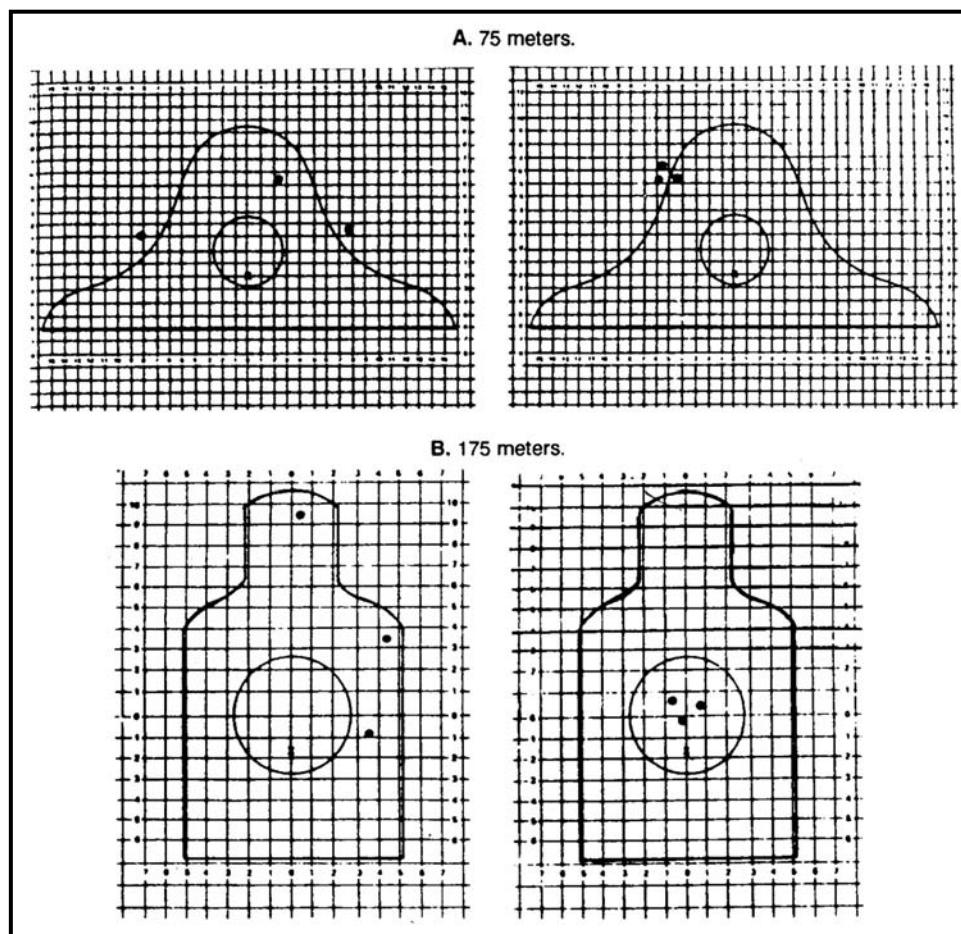

Figure 5-23. Comparison of firing performance.
d. **KD Shot-Grouping Analysis.** Figure 5-23 shows two targets that were both shot with three individual rounds (A). On a pop-up target these two firing performances would provide the same information back to the firing line; each target was hit once and missed twice. Once the targets are properly marked with spotters on a KD range it becomes clear why only one round hit either target. The firer on the left is failing to properly apply the four fundamentals correctly, and the firer on the right needs to make an adjustment to his iron sights (assuming that wind was not a factor). The firer on the right would then triangulate the shot group and read the appropriate adjustments from the target. Figure 5-23 also shows another two targets that were both shot with three individual rounds (B). On a pop-up target these two firing performances would appear to be the same. Once properly marked with spotters on a KD range it is obvious that the firer on the left needs more training on the four fundamentals.